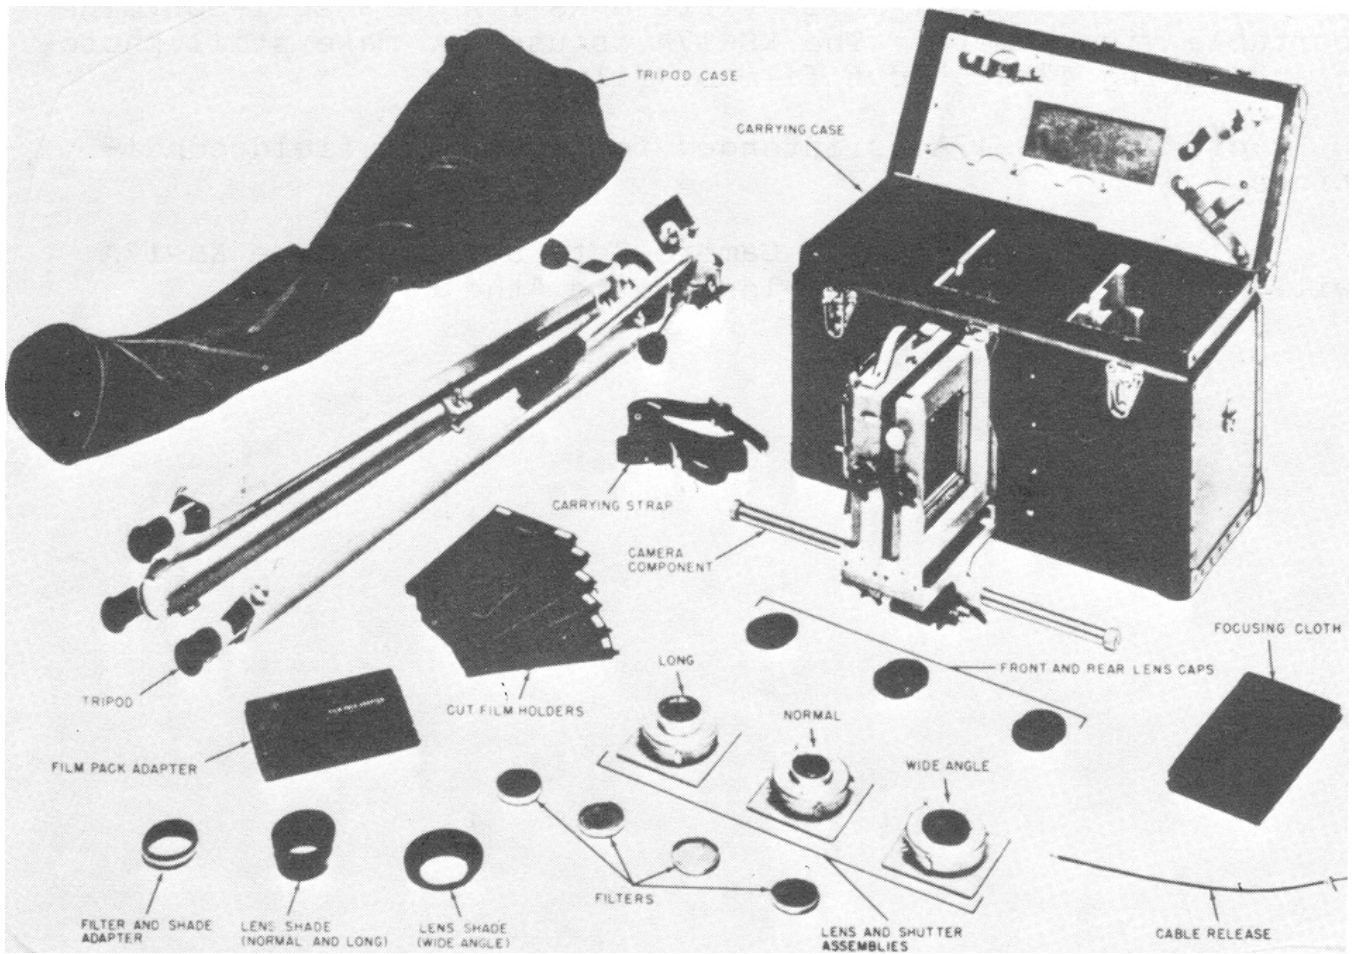

FIGURE 1. Camera Set, Still Picture KS-17A, components.
a. This section describes Camera Set, Still Picture KS-17A (figure 1) and covers its installation, operation, and operator's maintenance.
a. The KS-17A (figure 1) includes two major components (camera component and tripod) and various minor components. The minor components consist of three lens and shutter assemblies (mounted on individual lens boards), a cable release, three sets of front and rear lens caps, two lens shades, four filters (red, yellow, deep yellow, and pola screen), a filter and shade adapter, a focusing cloth, tripod case, six cut film holders and a film pack adapter, a carrying strap and a carrying case.